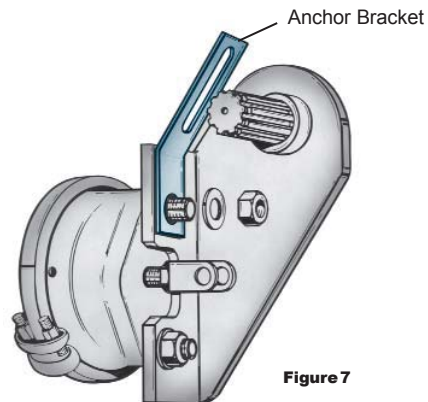

Figure 7
- Install anchor bracket loosely as illustrated (fig. 7).